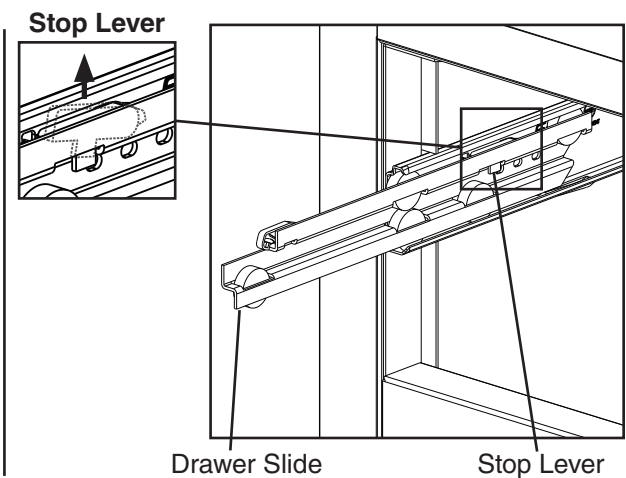

Fig. 46
- **To remove a drawer slide (center slide containing rollers):** Push up on the stop lever while pulling on the drawer slide. See Fig. 46. Drawer slides do not require lubrication, but drawer slides should be kept clean and free of food.